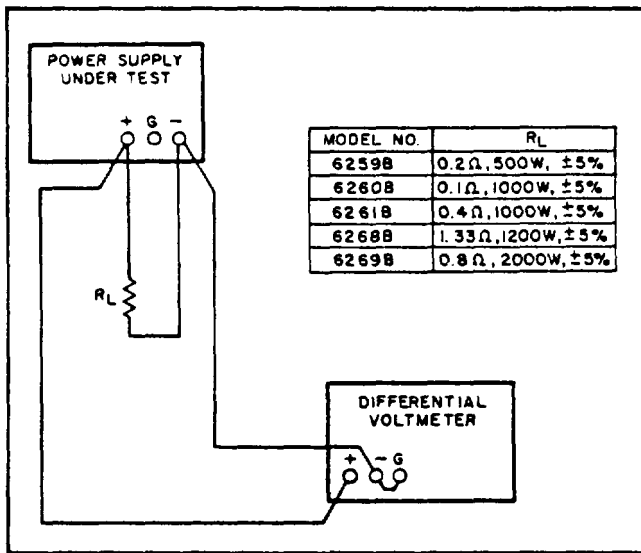

Figure 5-2. Constant Voltage Load Regulation Test Setup
| Resistive Loads | Values: see Figures 5-2 and 5-5. | Power supply load resistors. | ---- |
a. Connect load resistor (R_L) indicated in Figure 5-2 across output terminals of supply.
a. Connect test setup shown in Figure 5-2.